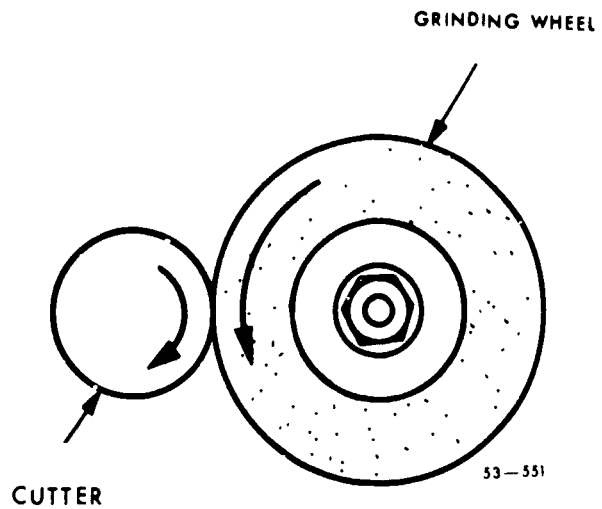

Figure 3-22 Wheel and cutter rotation for cylindrical grinding
**Grinding Cutters Cylindrically.** Certain types of cutting tools, such as reamers and milling cutters, are ground cylindrically to remove warpage from heat treatment, to remove nicks, to obtain a specific diameter, or to produce a finish and a slight clearance on the cutting edges of the teeth. When you grind tools cylindrically, the work is rotated in the opposite direction from that ordinarily used in cylindrical grinding. If a clearance is desirable on the cutting edges, the wheel and the work should move in the same direction at the area of contact, as shown in figure 3-22. Mount the cutter so that the heel of the tooth strikes the